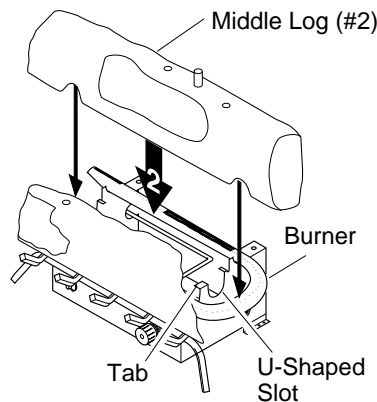

Figure 25 - Installing Middle Log (#2)
2. Place the base of the middle log (#2) in the U-shaped slots of the grate base. The cutout on the right of the middle log should fit over the burner (see Figure 25). Make sure the front of the middle log is resting on the tabs of the grate base.